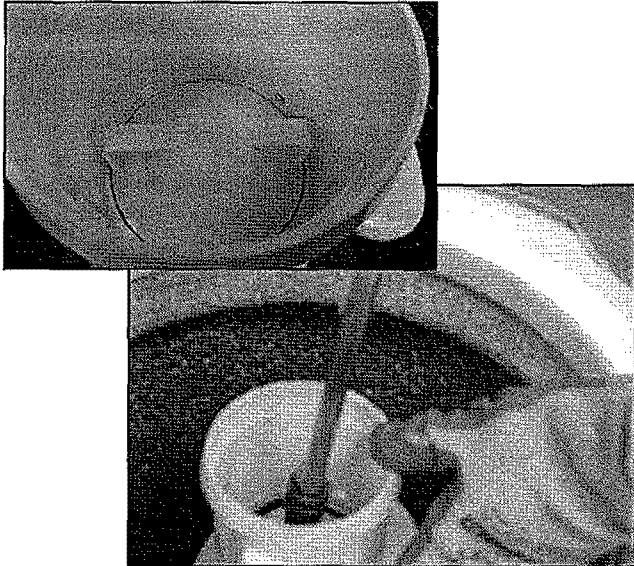

FIGURE 7
8. Remove the agitator cap, barrier cap and 7/16" bolt. See Figure 7.